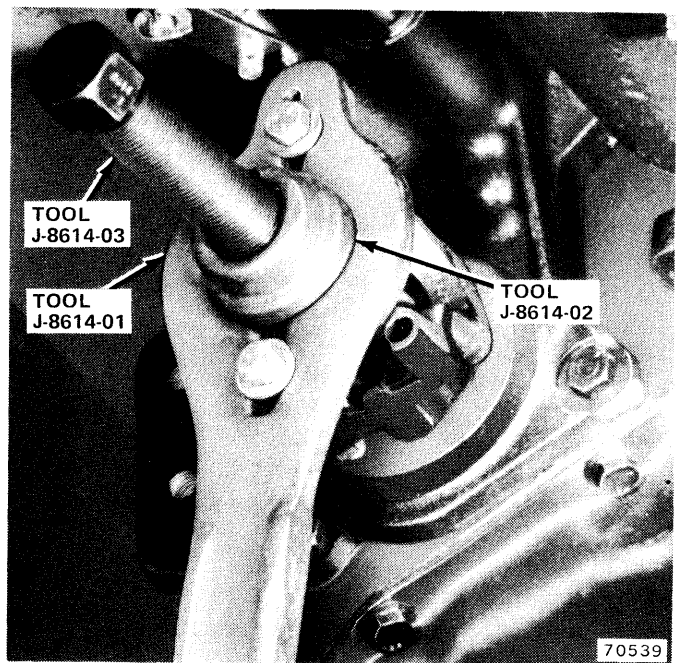

Fig. 10-3 Removing Yoke
(4) Remove yoke using Tool J-8614-01, 02, 03 (fig. 10-3).
(5) Remove pinion seal using Tool J-25180.
(6) Install replacement seal using Tool J-25104.
(7) Install yoke.
(8) Install pinion washer and nut. Tighten nut to 210 foot-pounds torque.
(9) Align reference marks on propeller shaft and yoke and connect shaft to yoke. Tighten shaft-to-yoke attaching bolts or nuts to 16 foot-pounds torque.
(10) Lower vehicle.